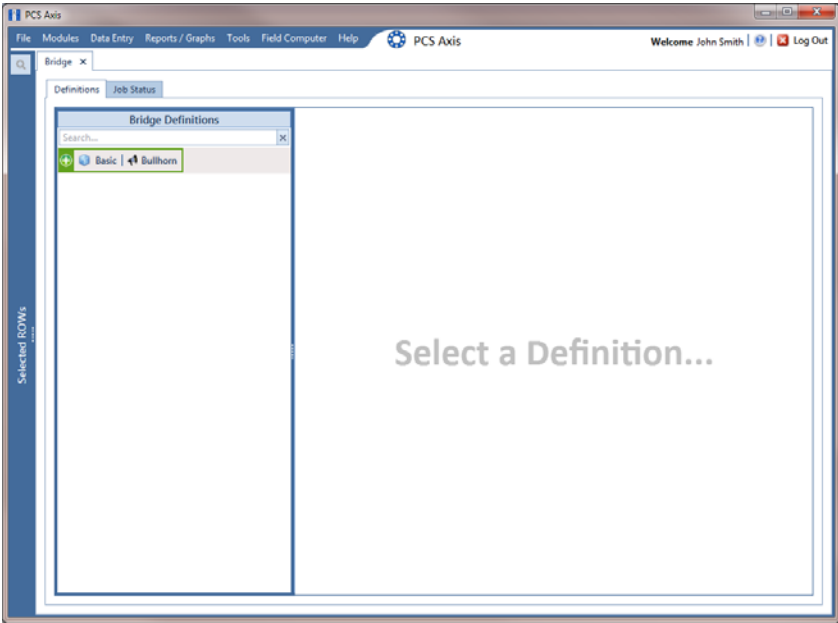

Figure 10-13. Bridge
- 2 Click **Tools** > **Bridge** to open the *Bridge* window (Figure 10-13, page 438)